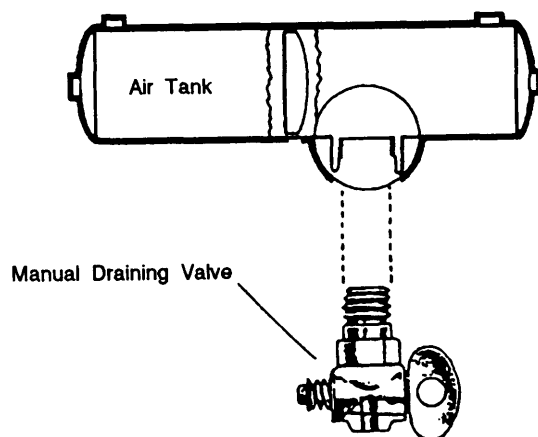

Figure 3-45.-Air tank manual drain valve.
1. The manual valve shown in figure 3-45 is operated by turning it a quarter turn or by pulling a cable. Part of your post-operational procedures is to drain all air tanks at the end of each day.